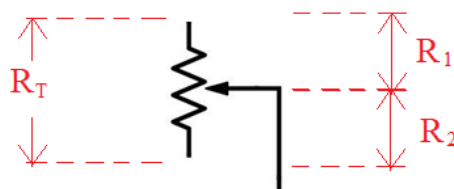

Figure 2.3 – Resistance Measurement
e. Using as reference Figure 2.3, measure each resistor and record its resistance value in Table 2.6. Write your measurement in engineering notation with its respective prefix and unit.